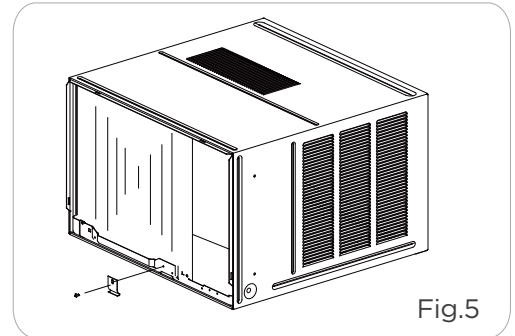

Fig.5
3. Engage the chassis fixing brackets into the bottom cabinet rail and secure to the base with the screw provided.(See Fig.5).